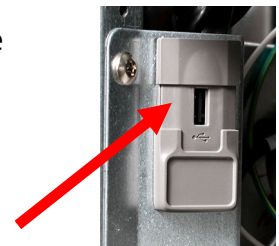

Figure 14
3. Locate the USB with the **IoT AGENT SOFTWARE FILES** and insert the USB drive into the USB port on the **FAR-LEFT** side of the fryer, just inside the left fryer door (see Figure 14). The USB port may differ in appearance based on date of manufacture